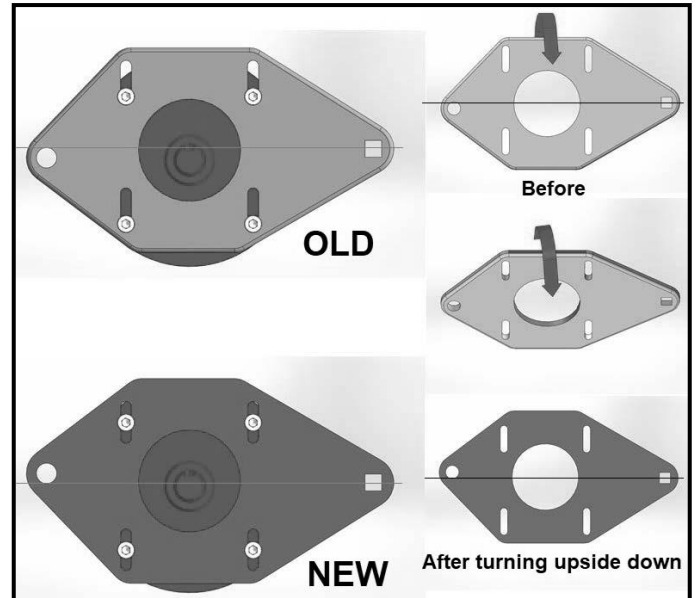

Fig. 3
5. Turn the motor plate upside down as shown in Fig. 3 from "OLD" to "NEW".
6. Attach the motor with the motor plate together to the middle of the four slots on the motor plate by tightening the four hex socket cap screws as shown with "NEW" in Fig. 3.